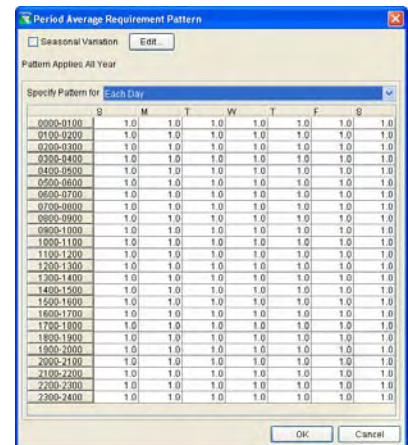

Figure 11.80 Period Average Requirement Pattern for Each Day
3. The **Each Day** option (Figure 11.80) allows you to specify different release requirement patterns for every day of the week, and each hour of the day can have a different multiplier. Refer to Sections 11.6.3 and 11.6.4 for more details on **Hour of Day** and **Day of Week** multipliers.